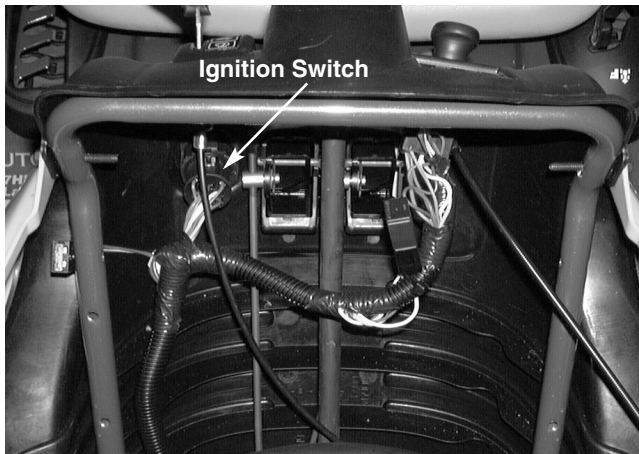

FIGURE 18.
- 1). From behind the dash panel, locate the ignition switch and wiring harness connector. See figure 18.